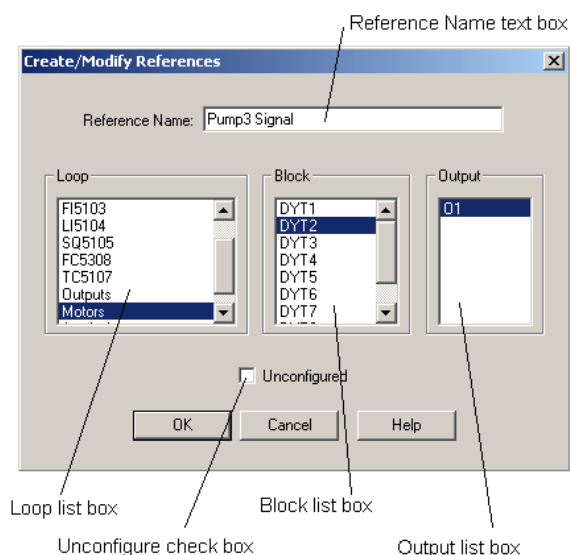

Figure 8-8 Create/Modify References dialog
2. Click **[Create]**. The Create/Modify dialog displays. See Figure 8-8.
3. Click **[Modify]**. The Create/Modify dialog displays. See Figure 8-8.
3. Click **[Modify]**. The Create/Modify dialog displays, including the Name and Value (if any). See Figure 8-8.